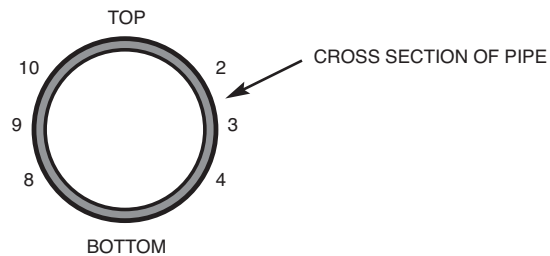

Figure 13 – Pipe Taps Shall be Between 2-4, or 8-10. Not on Top or Bottom of a Pipe.
- 2.2 Before uncrating, assembly, and installation of the Smart Shield® system, consider the location of the recirculating water's (2) supply and (2) return taps in the system piping headers. Each header tap should include an isolation valve at the header and be installed on the side of the pipe (see Figure 13). Consider sanitary drain location. Drain piping should provide for gravity flow. Also consider install location for both the **MRF** and **BCF-OX** systems, as motorized valves on the **BCF-OX** are field wired into the controller located on the **MRF** system. The **MRF** system may be located against a wall or in a corner of the mechanical room. Allow sufficient space for supply, return, and drain piping (minimum of 24" [610 mm]). Allow a minimum of 30" (760 mm) unobstructed space in front and to one side of the **MRF** system for routine servicing. Allow a minimum of 36" (915 mm) unobstructed space above feeders for routine servicing. See Figures 1 and 2.
- 3.1.3 Each header tap shall include an isolation valve at the header, supplied by others. See Figure 13 for recommended pipe tap locations.
The **BCF-OX** module is installed in conjunction with the **MRF** system in a mechanical room, as described in Section 3.0. Before installation, consider the location of the recirculating water's supply and return taps in the system piping headers. Each header tap should include an isolation valve at the header and be installed on the side of the pipe (see Figure 13). Also consider sanitary drain location. Drain piping should provide for gravity flow. The **BCF-OX** module may be located against a wall or in a corner on the floor of the mechanical room. Allow sufficient space for supply, return, and drain piping. Allow a minimum of 30" (760 mm) unobstructed space in front and to one side of the skid for routine servicing. Allow a minimum of 36" (915 mm) unobstructed space above feeders for routine servicing. See Figures 23 and 24. General installation piping arrangements are shown in Section 3.2. For special installations not covered in this manual, please consult your EVAPCO Representative or Authorized Water Systems Service Provider. General **BCF-OX** installation requirements are listed below.